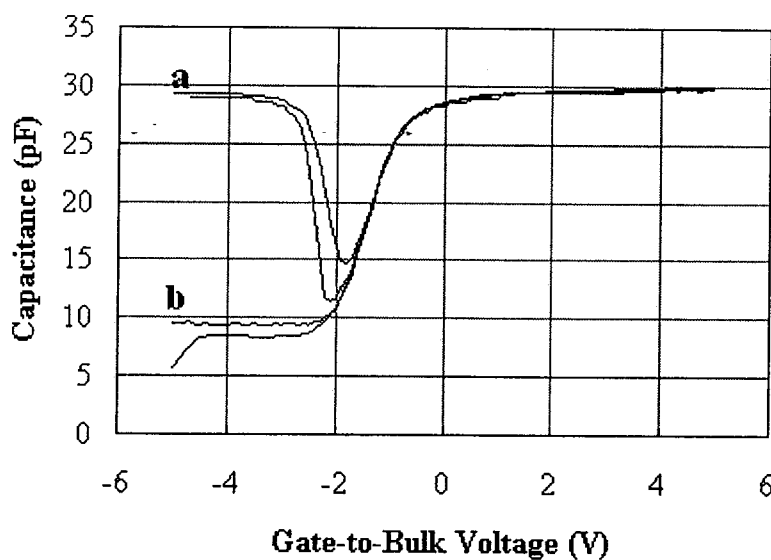

Figure 4
4. [a] C-V characteristics of MOS capacitor at low and high frequencies shown in Figure 4.